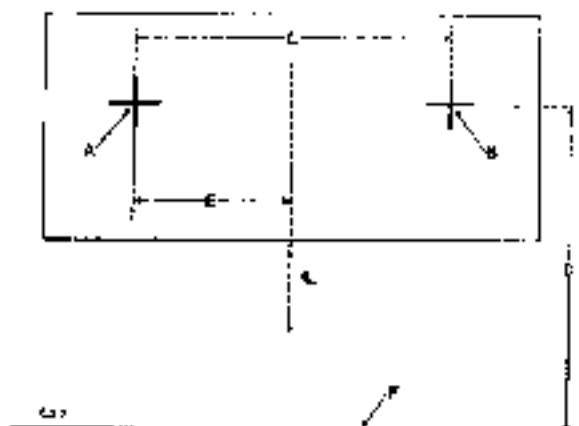

Fig. 46 Headlamp setting board dimensions
1. Mark on the board the dimensions given in Fig. 46 and position the vehicle, unladen, on level ground.